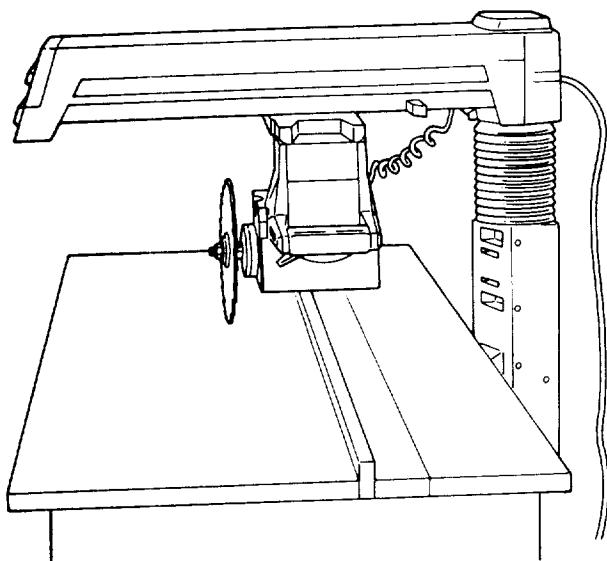

Fig. 79 - Out-rip Position
1. Unlock the *swivel lock* and turn the *motor* to the out-rip position with the *motor* between the *blade* and *fence*. (Figure 79)